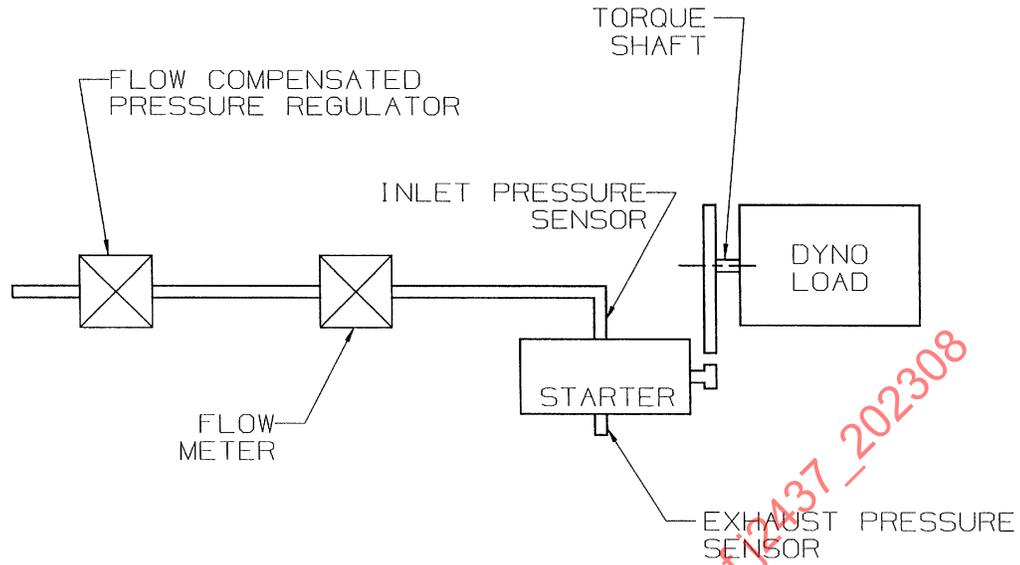

FIGURE 1—STARTER MOTOR PERFORMANCE TEST ARRANGEMENT
- 3.1 **Testing Procedure**—The starter shall be mounted in a test stand as shown schematically in Figure 1. Performance curves are established by running the starting motor in one of two methods. Method A involves plotting a curve from discrete points while Method B is achieved by operating the motor in a continuous mode while the output is automatically recorded and/or plotted. Deviation from either of these two methods shall be noted on the performance curve. Air pressure shall be measured at the starter inlet port and adjusted as required to maintain a constant value during the entire test. The air pressure should not exceed the recommendation of the manufacturer. All torque measurements should be reflected to the starter output shaft. Ambient air temperature should be recorded. The supply air moisture and lubricant content should be noted. All data shall be reduced to the standard conditions of 1 Bar (14.7 psig) and 21 °C (70 °F).